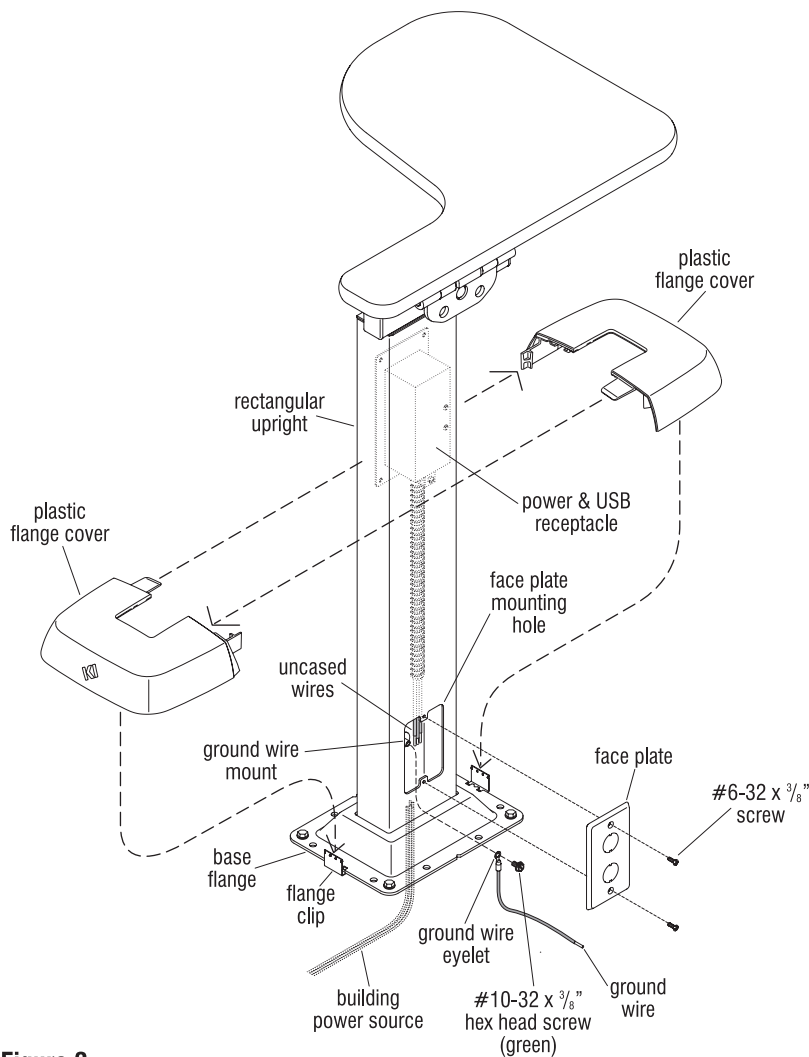

Figure 2
- Remove the face plate attached to the rectangular upright with two #6-32 x $\frac{3}{8}$ " screws to access the uncased wires and building power source wires. Next, Attach supplied ground wire using the green #10-32 x $\frac{3}{8}$ " hex head screw through the ground wire eyelet to ground wire mount inside of rectangular upright (Figure 2).
- Certified electrician can attach ground wire and uncased wires to building power source wires (Figure 2 & Figure 3).
- Position plastic flange covers over the base flange at each side of rectangular column. Snap the flange covers together and push the flange cover down tight to the floor to engage the flange clips and secure the cover (Figure 2).